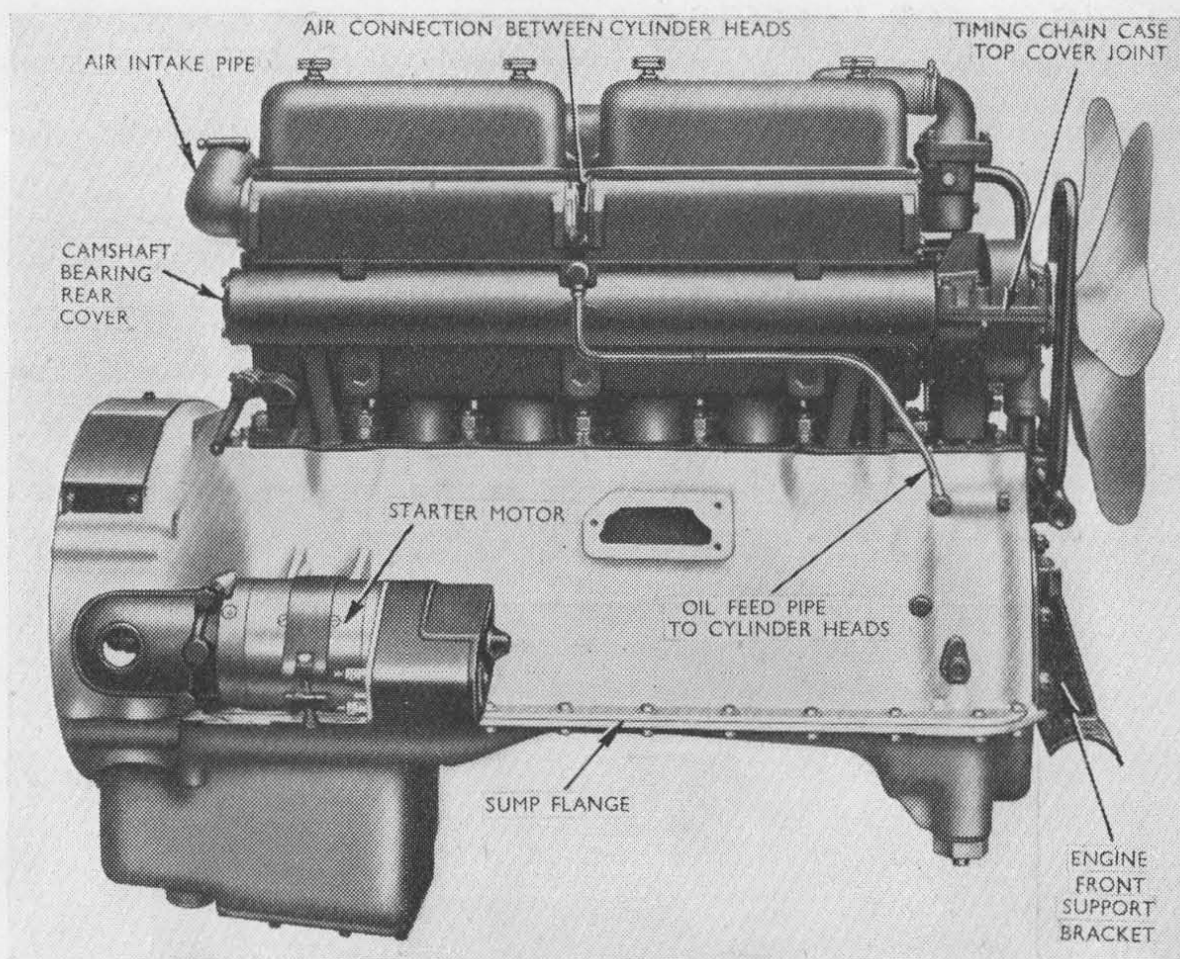

Fig. 14. Offside View of Engine.
(iii) AIR INTAKE PIPE JOINTS (Fig. 14).
(ii) The six nuts which hold the front support bracket to the crankcase should also be inspected ; these are split pinned (*see Fig. 14*).
- (b) Sump flange (Fig. 14).
- (d) Engine front support bracket (Fig. 14) (inspection only).
- (h) Timing chain case top cover (Fig. 14).
- (m) Camshaft rear bearing cover at rear of cylinder block (Fig. 14).
- (a) Oil feed pipe to cylinder heads. Banjo pin at each end of pipe. (Fig. 14.)